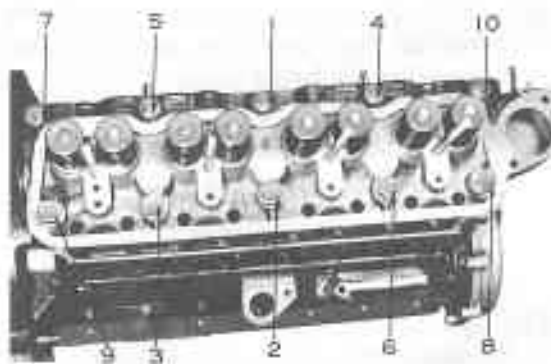

Fig. 3-69 Tightening Order
21. Turn the engine, and position the top side up. Install the cylinder head with the gasket, and tighten the cylinder head bolts following the order of the numbers as shown in figure 3-69, in three progressive steps, and secure the bolts to 10.3 to 11.7 m·kg (74.5 ~ 84.6 ft·lb) torque finally.